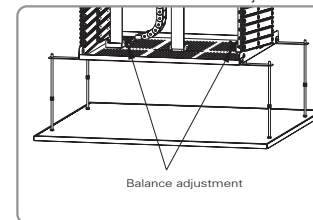

Figure15
11. The installation board may be unbalanced since the difference of woven belt's tightness or the not centric barycenter of projector. To keep the installation board balance please adjust the length of woven belt. (Figure 15)